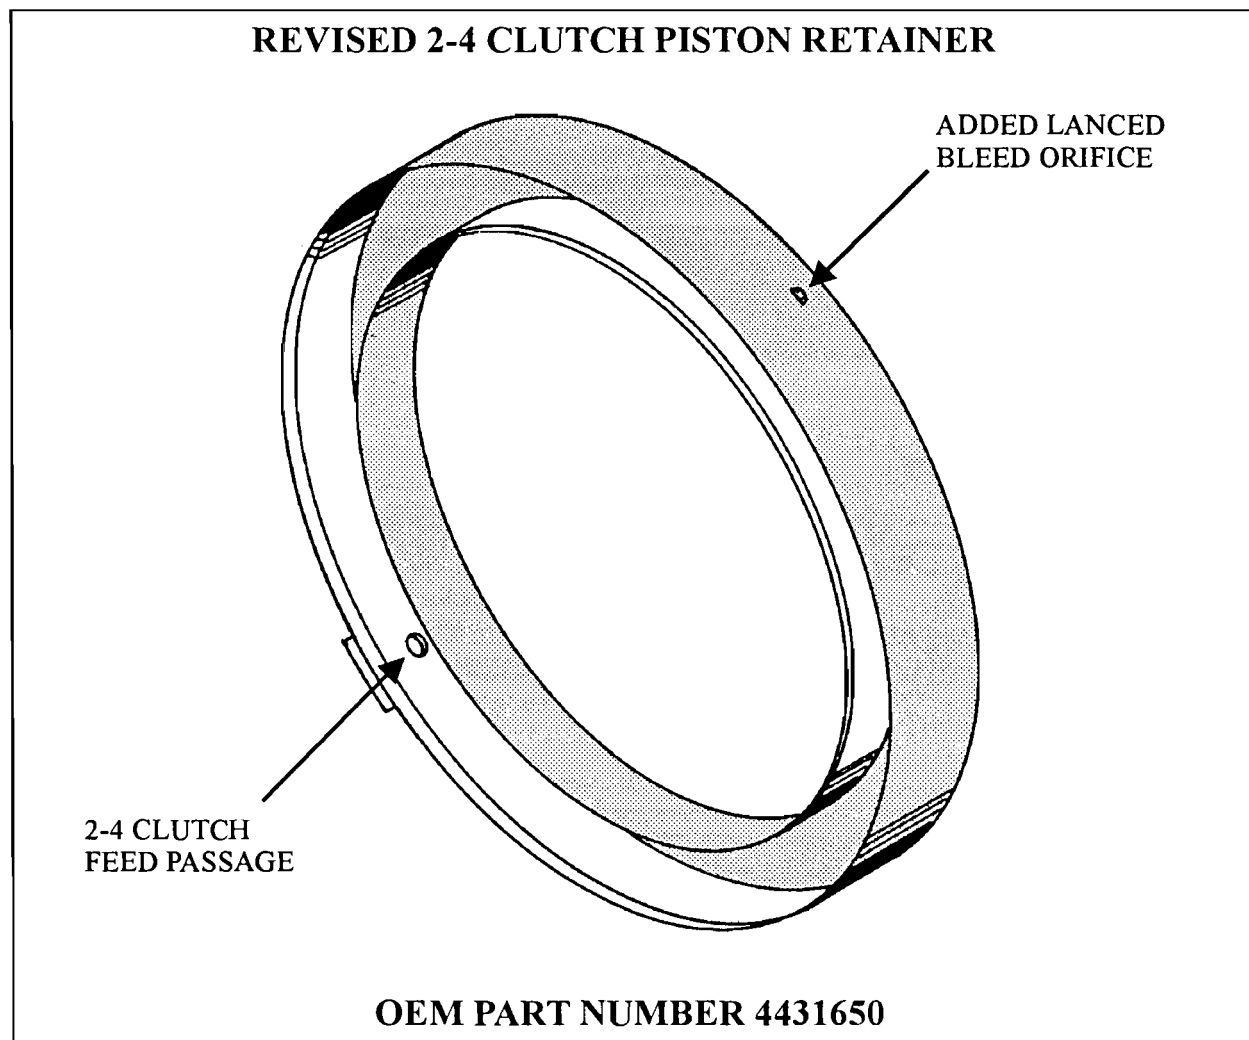

Figure 7
CHANGE: Beginning at the start of production for the 1995 model year, all Chrysler A604 (41TE) and A606 (42LE) transaxles were produced using a revised 2-4 Clutch Piston Retainer with an added lanced bleed orifice (See Figure 7).
- (1) 2-4 CLUTCH PISTON RETAINER - Lanced bleed orifice added to the retainer in the location shown in Figure 7.